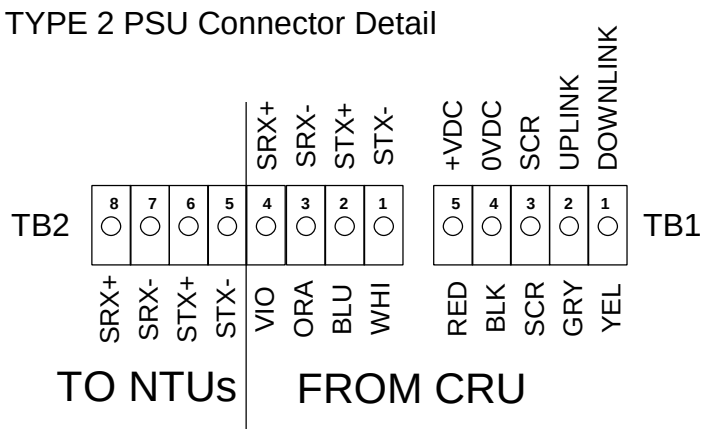

Figure 37. ISDN Drop Cable Connections to AC PSU (Type 2)
- At the PSU terminate the wires of the drop cable with the red insulated terminal pins and screw to the terminal blocks(TB1 & TB2). Figure 37 below, illustrates the connections of the drop cable to the connector blocks inside the AC PSU.